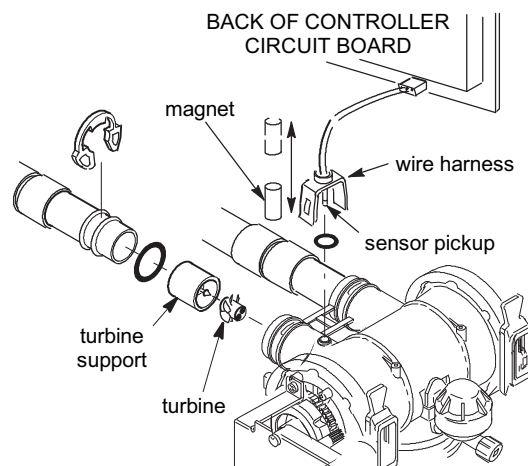

FIG. 107
6. If the display reading does not change with the faucet open, pull the wire harness from the valve outlet port (See Figure 107).